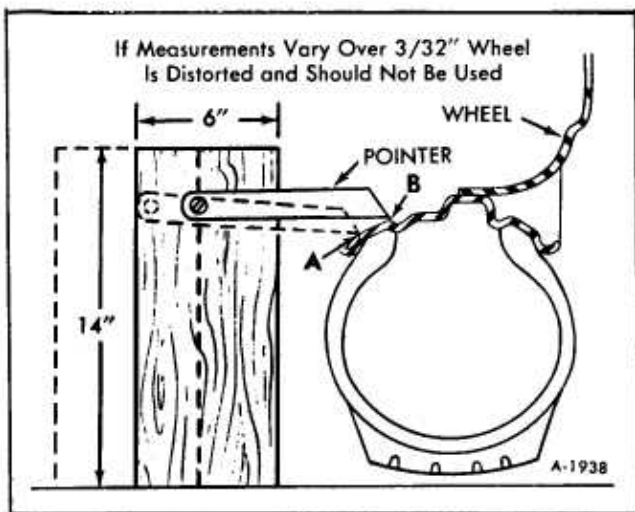

Figure 12—Method of Checking Distorted Wheels
Do not use wheels with bent rims. The continued use of such wheels will result in excessive tire wear and, if wheel is mounted on front of vehicle, difficulty in steering will be experienced. Wheels that are thought to be distorted may be checked as follows, referring to Figure 12 for checking points:
Secure block of wood approximately 6" x 6" x 14" or material with suitable base so it will remain positioned. Secure thin piece of wood or suitable material 10 inches long, such as ruler or yardstick, and fasten to wood block to a height in relation to rim surfaces as shown in Figure 12. Tighten screw sufficiently so pointer will hold its position when adjusted.
3. Position pointer at crown of rim (A, figure 12). Slowly revolve wheel and move pointer toward wheel until it contacts wheel at nearest point.
5. Place point of marker at inside of wheel at point "B", in Figure 12. Follow the previous procedure to check radial run-out (out-of-round condition); this should not exceed 3/32-inch. If wheel is